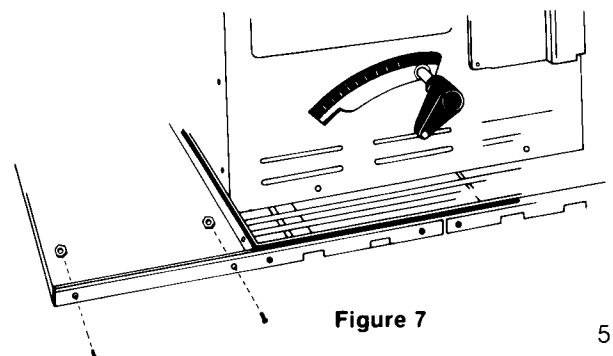

Figure 7
- G. Using eight 8-32 machine screws and hex nuts, fasten the Table Extensions to the Front and Rear support bars as shown in **figure 7**.